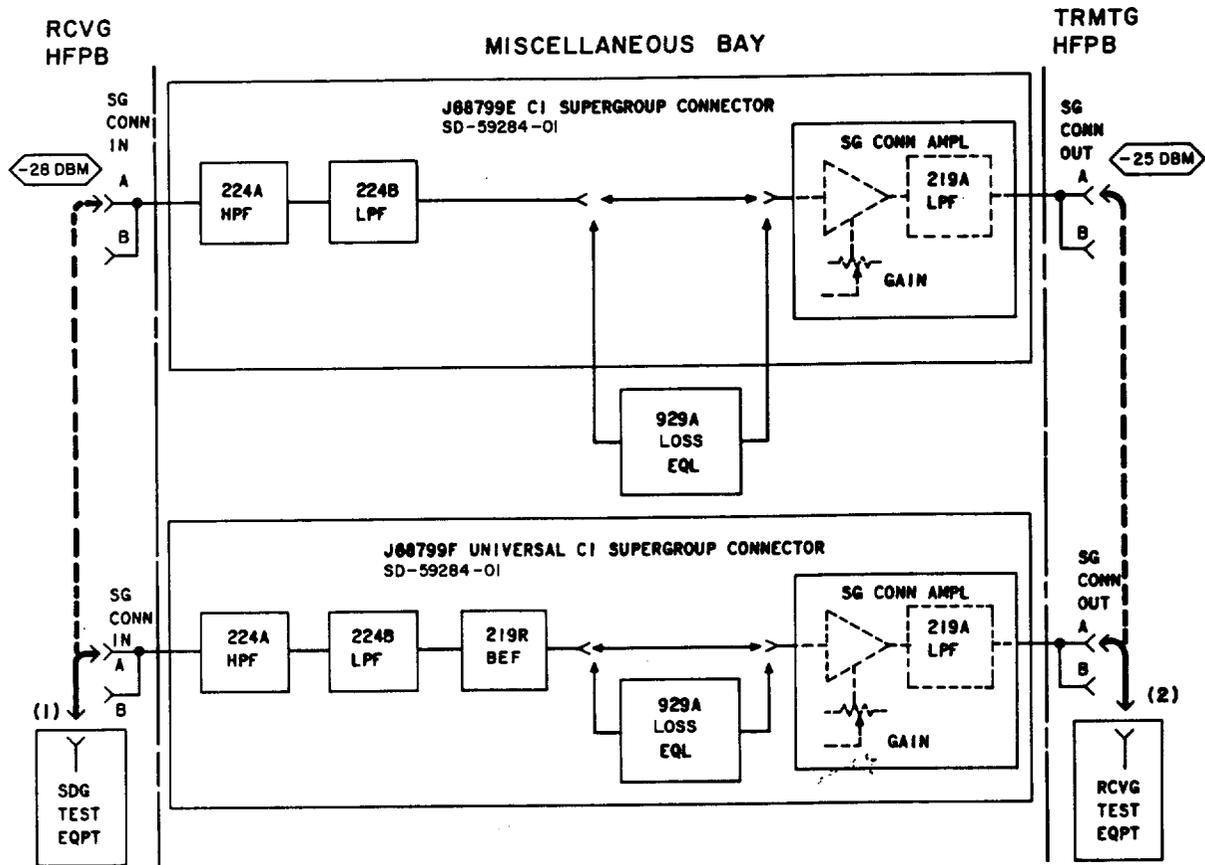

Fig. 2—C1 Supergroup Connector—J68799E and F—Patching Diagram
The supergroup connector has a nominal gain of 3 dB which can be adjusted by the GAIN control on the supergroup amplifier. An option is provided for inserting a 929A loss equalizer (Fig. 2).
5	Connect the STE to the SG CONN IN A jack [patch (1), Fig. 2].
6	Connect the RTE to the SG CONN OUT A jack [patch (2), Fig. 2].
16	Remove patch (1), Fig. 2.
25	<p>Remove patch (2), Fig. 2.</p>